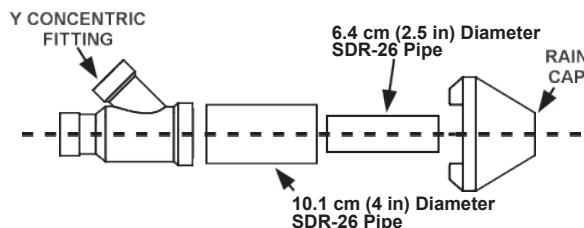

Figure 29. Concentric Termination Dimensions 2" Vent Pipe
- A. Cement the Y concentric fitting to larger diameter kit pipe, see **Figure 29** (page 33).
- B. Cement the rain cap to the smaller diameter kit pipe. See **Figure 29** (page 33).